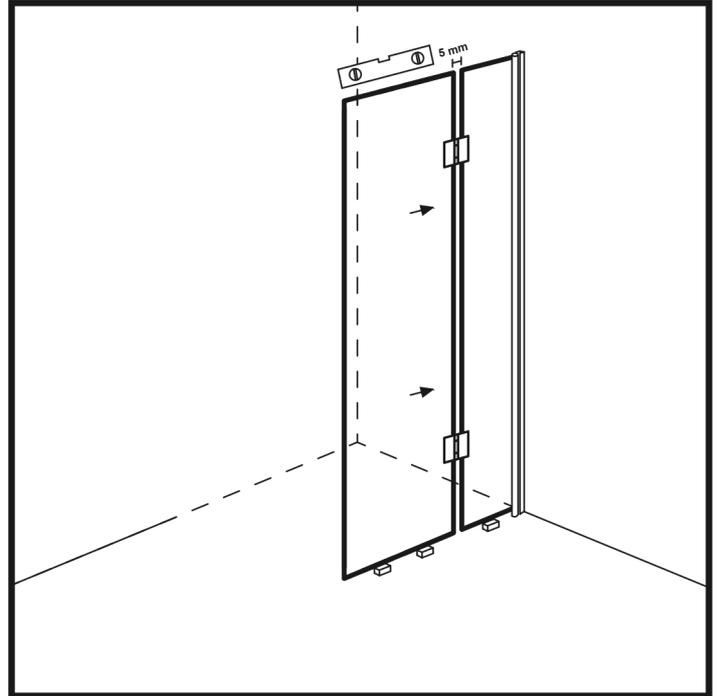

Figure 10
16. Place wooden blocks (max. thickness 10 mm) on the floor where you can support the door glass in the package. (Figure 10)